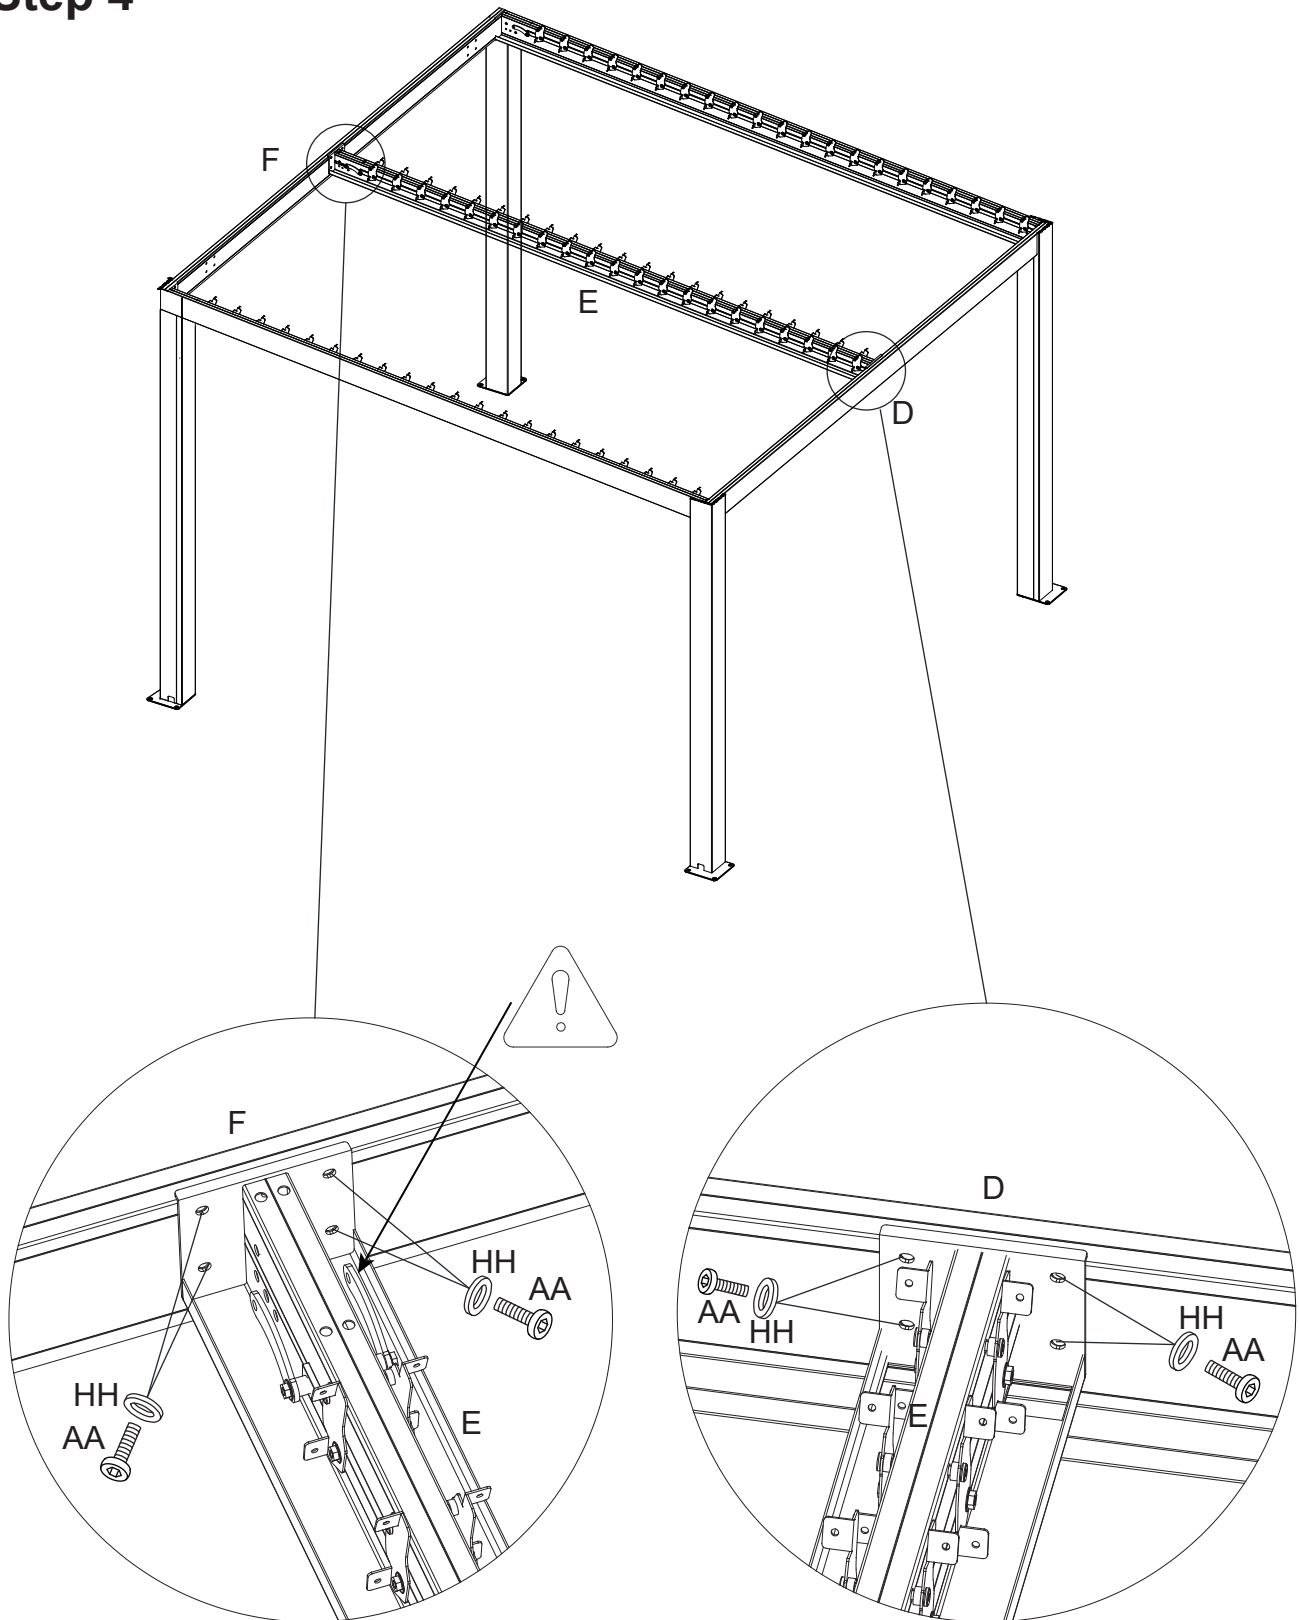

Figure 4
4. Connect the Middle Lintel (E) to the Front Lintel (D) on one end and the other end to the Rear Lintel (F), securing them together with Bolts (AA) and Washers (HH). See Figure 4.